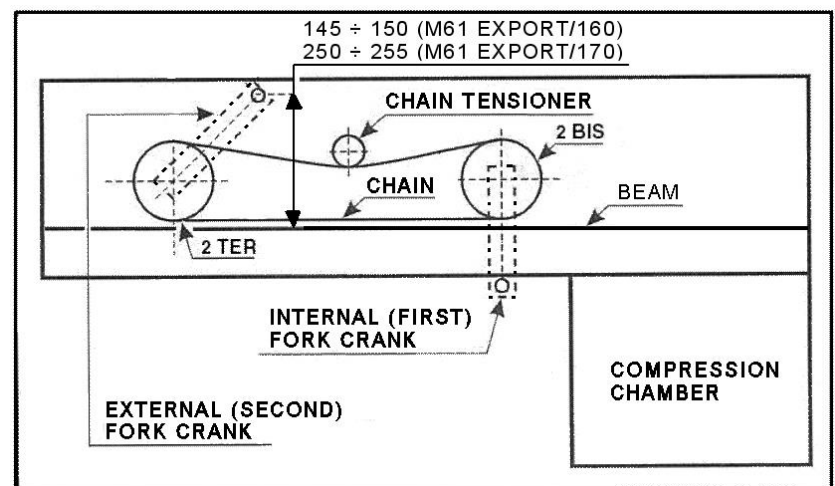

Fig. 13
Fig. 13 bis
Fig. 13 ter
3. Once the phasing of the 1st fork with the plunger has been obtained as mentioned above, you can continue with the phasing of the 2nd fork by connecting gear 2bis and gear 2ter by the chain (Fig. 13) after placing the crank of the 1st fork inclined in relation to the crank of the 2nd fork as shown in picture 13.